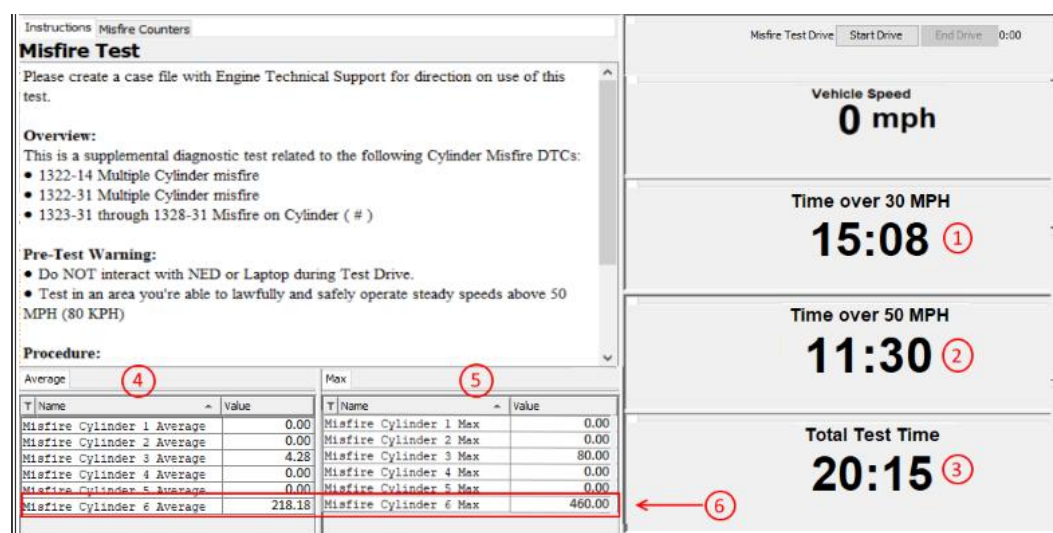

Figure 3: NED Test Results
1. The NED Test Session screen will show the Average and Maximum Misfire Count by cylinder during the test drive items 4 and 5 in figure 3 below.